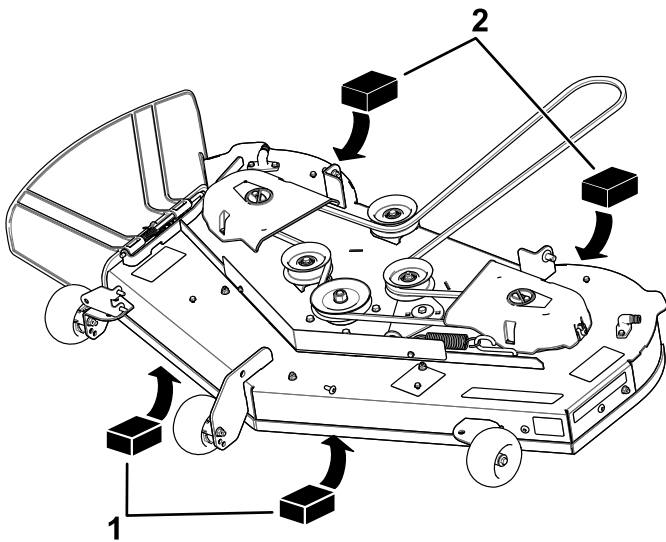

Figure 69
- Place 2 blocks, each having a thickness of 6.6 cm (2-5/8 inches), under each side of the front edge of the deck but not under the anti-scalp roller brackets (Figure 68 or Figure 69).
- Place 2 blocks, each having a thickness of 7.3 cm (2-7/8 inches), under the rear edge of the cutting deck skirt, 1 on each side of the cutting deck (Figure 68 or Figure 69).